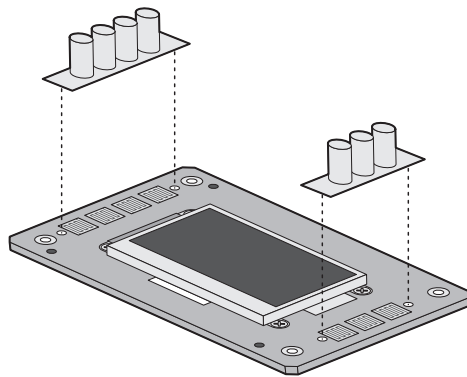

FIGURE 25: Removing/replacing the UIB buttons
Carefully pull the buttons out of the anchoring holes on the UIB (see Figure 25 on page 75). Take care not to damage the pointed tabs on the back of each button set.
1. If you are installing a new UIB, correctly orient the UIB buttons, and then mount them on the new board (see Figure 25).